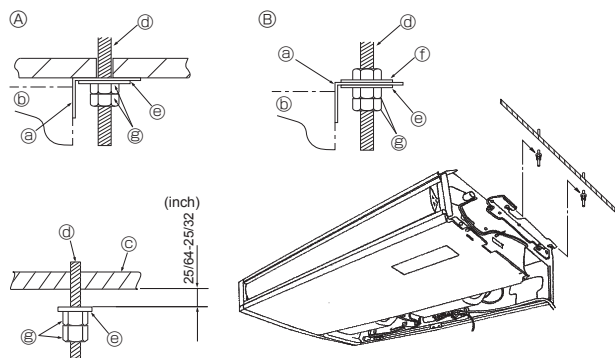

Fig. 3-6
- ⑦ Intake grille
- ⑧ Intake grille holding knob
- ⑨ Slide
- ⑩ Hinge
- ⑪ Pushing the hinge, pull out the intake grille.
- ⑫ Forcing open the intake grille or opening it to an angle of more than 120° may damage the hinges.
- ⑬ Slide the side panel forward.
- ⑭ Side panel
- ⑮ Remove the side panel holding screws.
- ⑯ Remove the protective vinyl of vane.
3.3. Installing the indoor unit (Fig. 3-6)